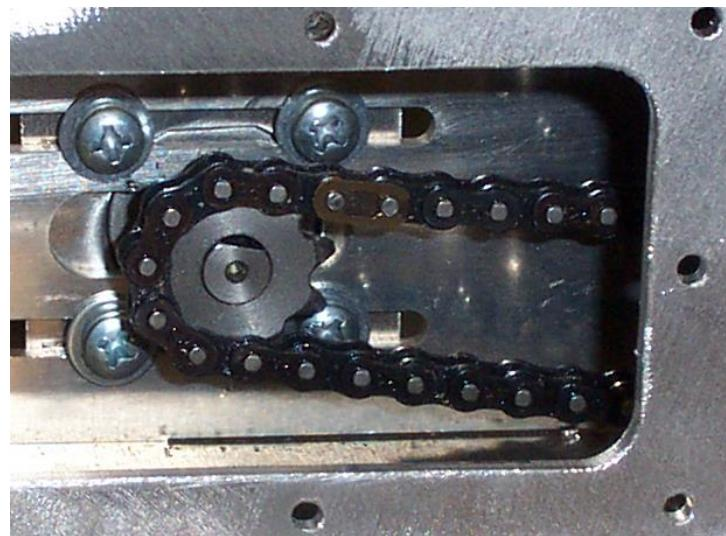

Figure 32: Master Link Installation
6. Install the master link as shown in Figure 32.